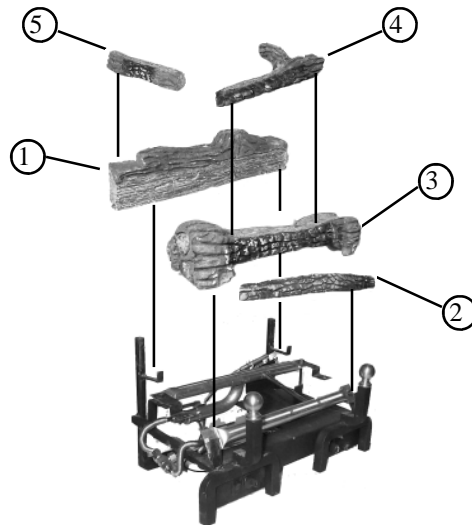

Figure 2
**WARNING:** POSITIONING OF LOGS IS VERY CRITICAL (See Figure 2).